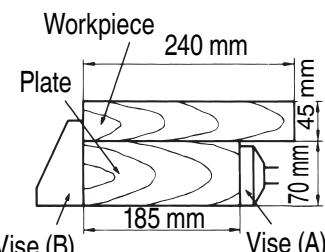

Fig. 10
- (1) **Fig. 10** shows dimensions for wide workpiece cutting at a right angle (0°). The use of a plate as illustrated in the figure permits cutting of wide workpieces of up to 240 mm (width) × 45 mm (height).